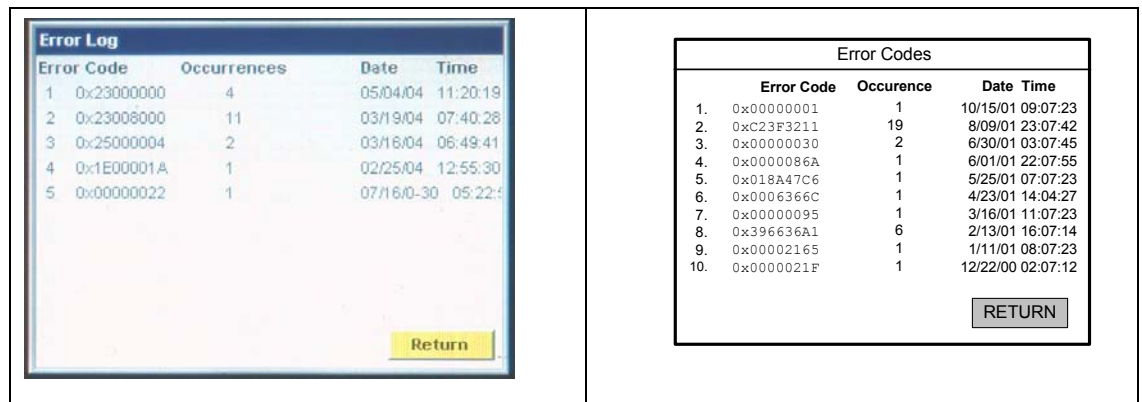

Figure 4-3. Displaying the ERROR LOG Screen.
4.11.2 Accessing the Error Log (Figure 4-3)